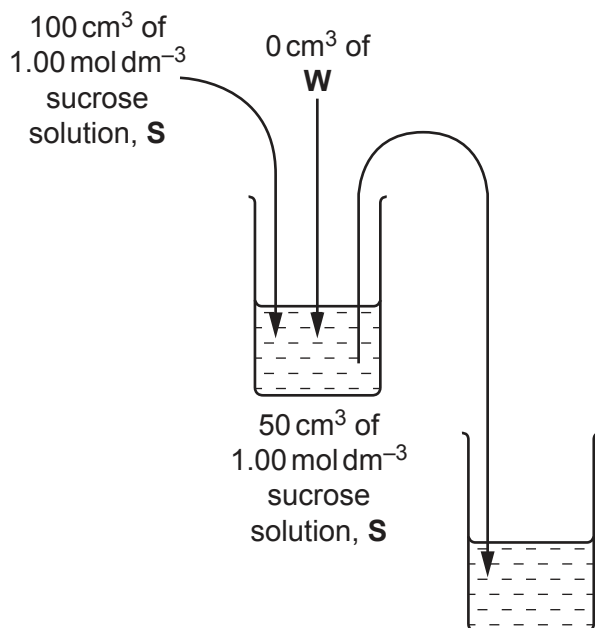

Fig. 1.3
- (ii) Complete Fig. 1.3 to show how you will prepare your serial dilution in the beakers provided.
Fig. 1.3 shows the first two beakers you will use to make your serial dilution. You will need to draw **three** additional beakers.